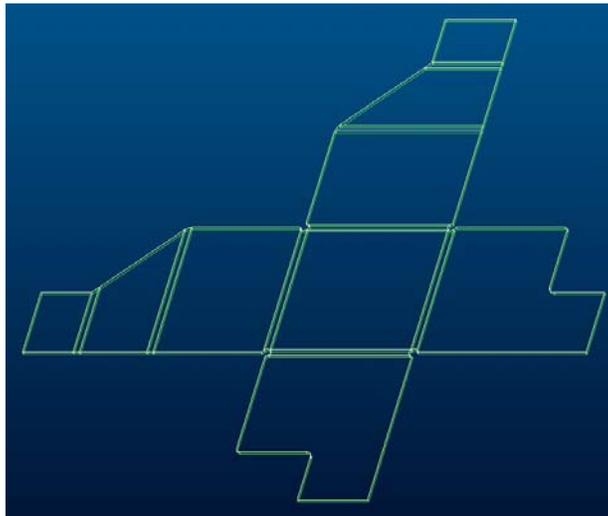

Figure 6
8. Now the model is developable, unbend the model. Select **Insert, Bend Operation, Unbend... Regular, Done**, select the bottom surface to remain fixed while unbending. Select **Unbend All, Done, OK** and the model should appear as in Figure 6.